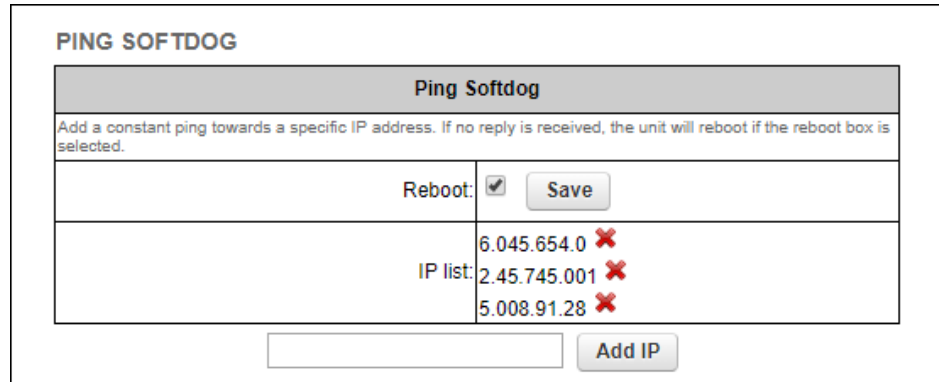

Figure 28. Configurator GUI (Ping Softdog dialog)
- The **PING SOFTDOG** dialog will be shown (Figure 28 (page 81)).